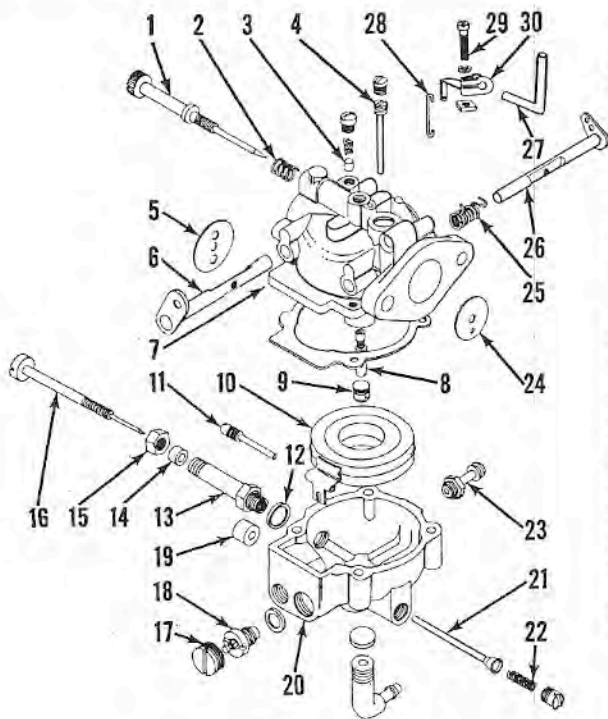

Fig. WB10 — Exploded view of Tillotson MD carburetor.
**CARBURETOR.** Tillotson, type MD carburetors are used on all models. Refer to Fig. WB10. Normal initial setting is one turn open from the closed position for both the high speed adjustment needle (16) and the idle mixture adjustment needle (1). Carburetor must be readjusted under load, after motor is warm, for best high speed and low speed performance.